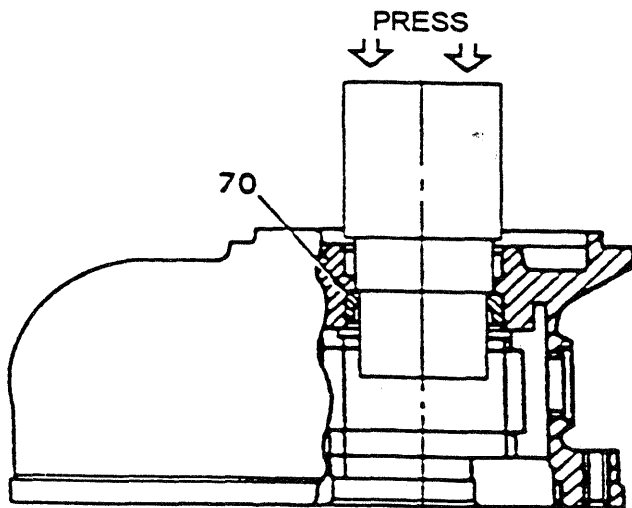

Figure 405. Pressing Bearing (70) Outer Race Out of Housing
- B. Place magneto housing (50) mounting flange up on base plate of an arbor press. Insert the 11-6924-1 Pressing Tool through outer race of bearing (70, Figure 405) until it bottoms as shown. Press outer race out and discard.
- C. Record magneto type and part number. Remove and discard nameplate (52). Clean pad area to remove adhesive and dirt.
- D. Using CG40-8 collar, CG40-4 expander rod and arbor press, remove bearing (64) outer race from distributor housing (48).